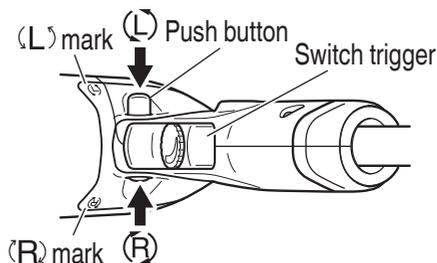

Fig. 2
6. Check the rotational direction (Fig. 2)